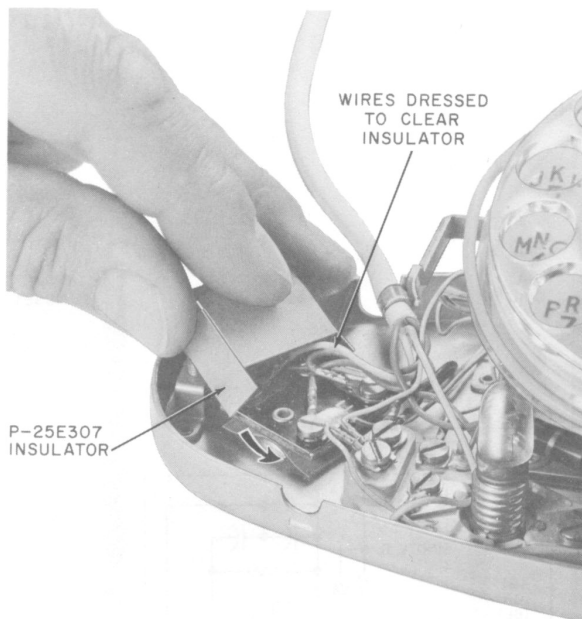

Fig. 7—Placing Insulator Over Terminal
- (2) Dress all leads to prevent wiring from being caught between weight and base of set.
- (3) Install P-25E307 insulator as shown in Fig. 7.